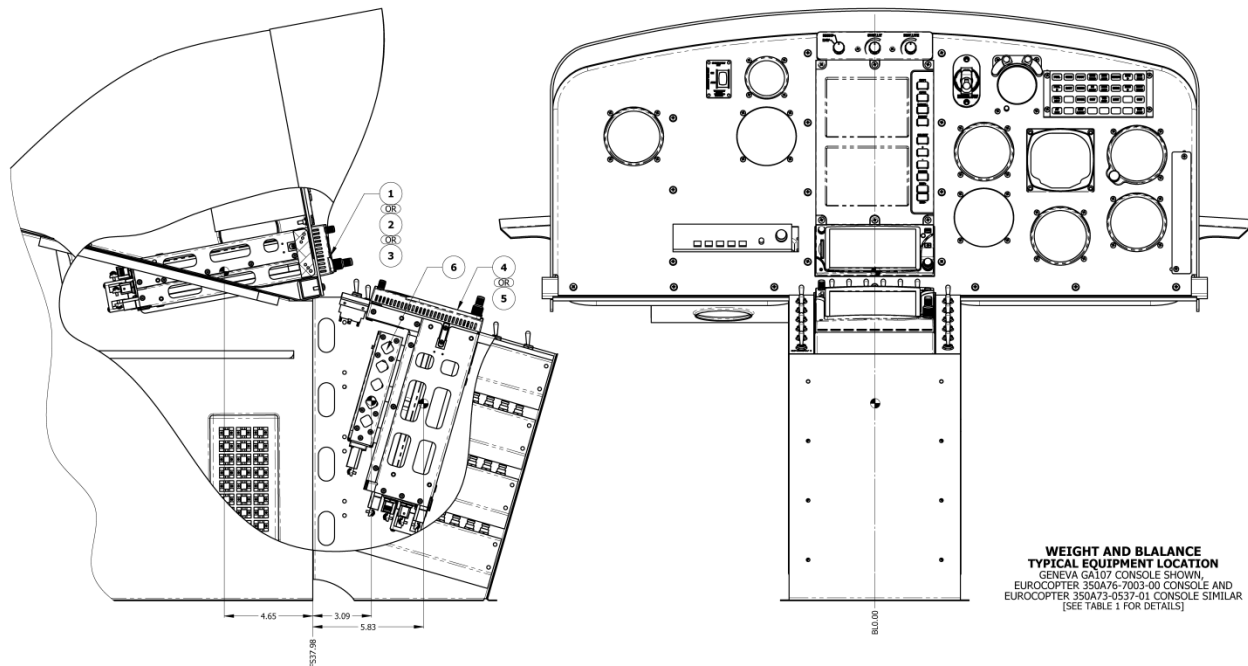

Figure 9 GTN and GMA 35 FS and BL Location
The location of GTN navigator and optional GMA 35 audio panel in reference to rotorcraft fuselage station (FS) and butt line (BL) is shown in **Figure 9** with corresponding lateral and longitudinal arms and moments detailed in **Table 6**. Dimensions are for reference.